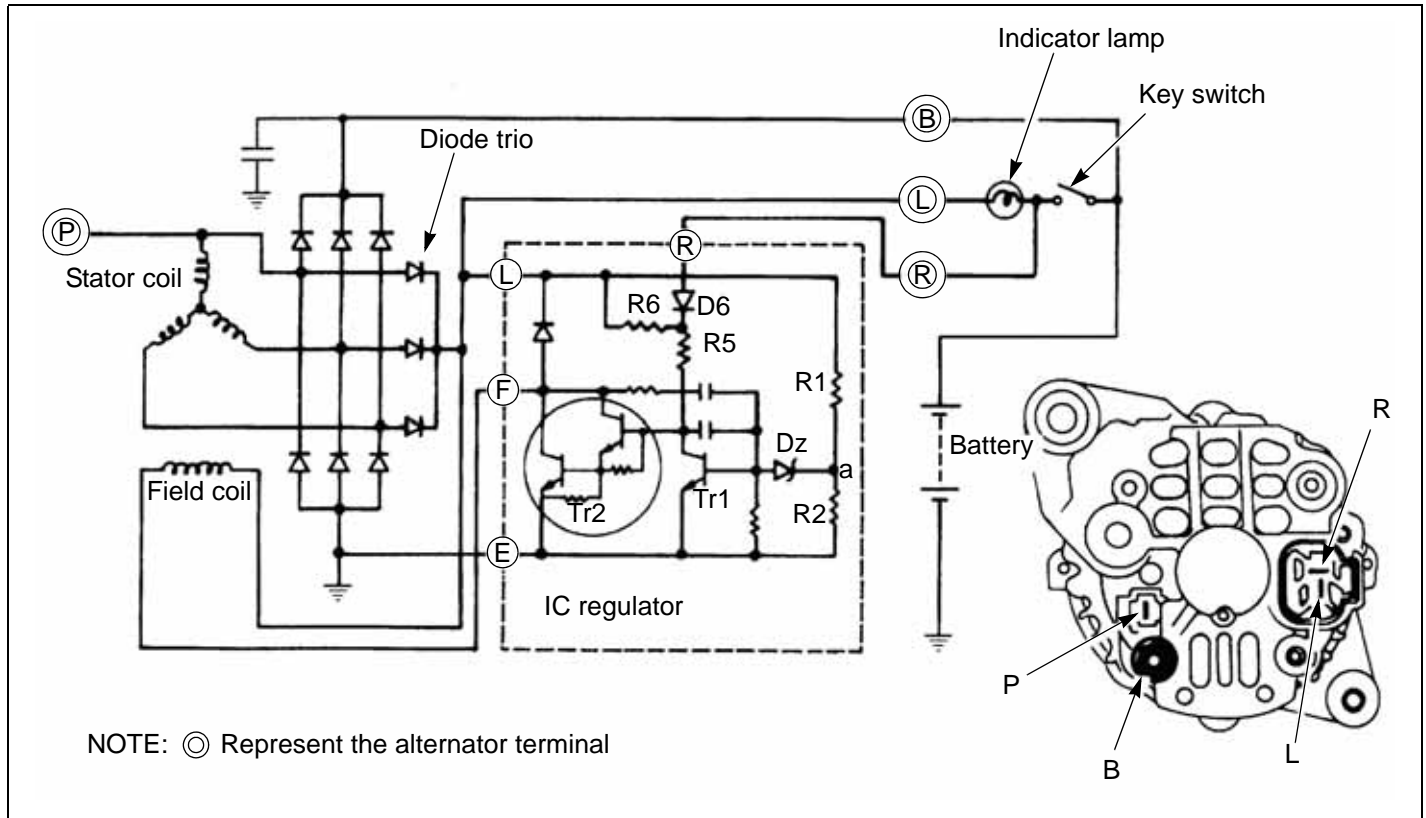

Fig. 5-10
1. The charging circuit and internal connection are shown in page 5-4, Fig. 5-10. The charging system consists of an IC (integrated circuit) regulator built in alternator, a battery and connecting wires. Because of the use of an IC, the voltage regulator is very compact and is built into the alternator.